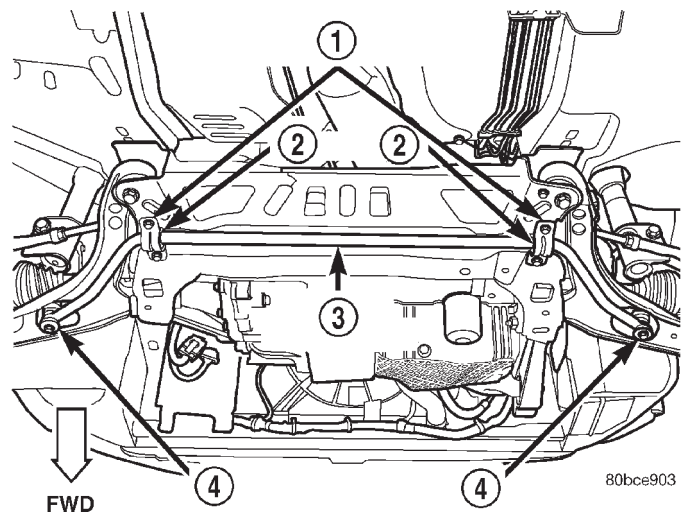
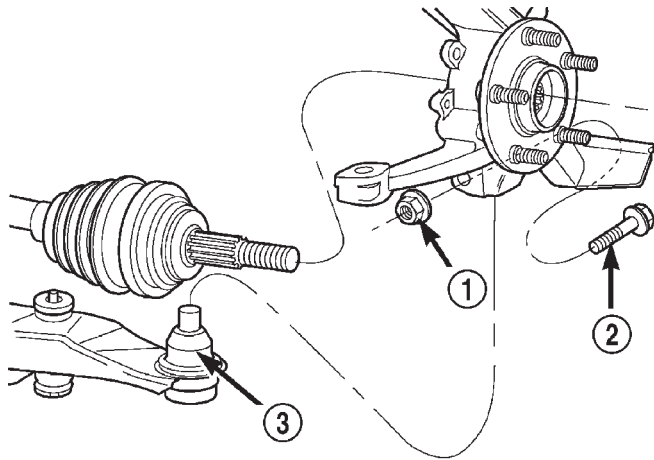

Fig. 14 Stabilizer Bar Links
Fig. 15 Ball Joint Bolt And Nut
(1) Raise the vehicle. Refer to **HOISTING** in the **LUBRICATION AND MAINTENANCE** group for the proper lifting procedure.
(2) Remove the front tire and wheel assembly.
(3) Remove both stabilizer bar links from the vehicle (Fig. 14). Remove each link by holding the upper retainer/nut with a wrench and turning the link bolt.
(5) Remove the nut and pinch bolt clamping the ball joint stud to the steering knuckle (Fig. 15).
(5) Install a new ball joint stud pinch bolt and nut (Fig. 15). Tighten the nut to a torque of 95 N·m (70 ft. lbs.).
(6) Rotate the forward ends of the stabilizer bar into mounting position.
(7) Install both stabilizer bar links back on vehicle (Fig. 14). Start each stabilizer bar link bolt with bushing from the bottom, through the stabilizer bar, inner link bushings, lower control arm, and into the upper retainer/nut and bushing (Fig. 1). Do not fully tighten the link assemblies at this time.
(8) Lower the vehicle to ground level.